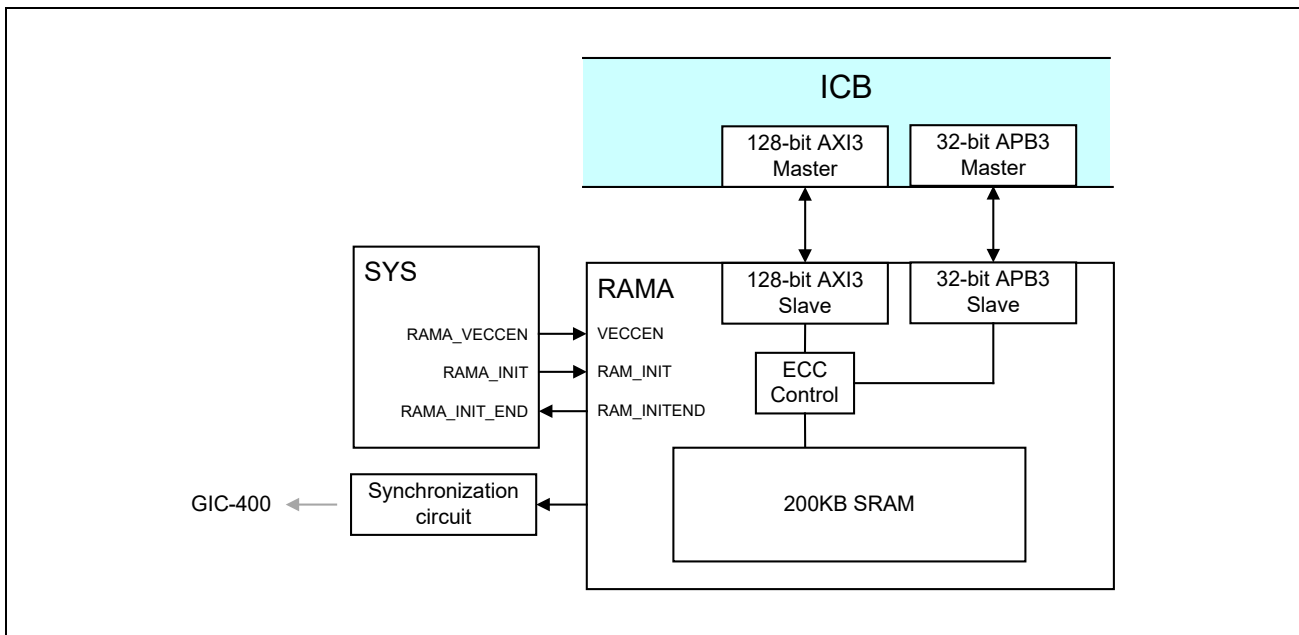

Figure 12.1-1 Connection Diagram
**Figure 12.1-1** shows the connection diagram of the RAMA.